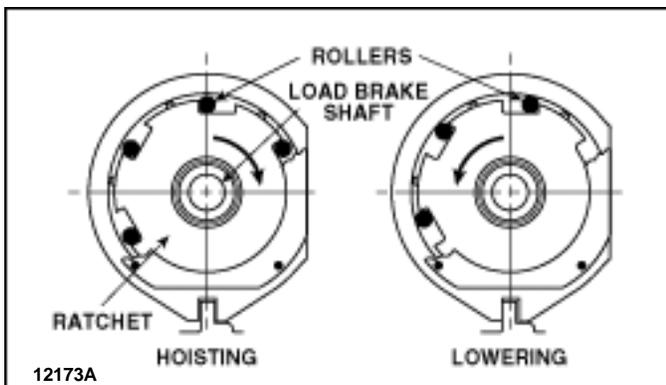

Figure 8-5. Illustration of Roller-Ratchet Brake.
- (1) Open brakes up and check shoe friction surfaces.
- (2) If worn, replace worn linings and shoes by first removing pin holding shoe and rotating shoe out of brake assembly.
- (3) Reassemble with new shoe in reverse order of disassembly. It is recommended that a new set of brake shoes be kept on hand to reduce down time for replacement.
- (4) Adjust brake per paragraph 8-5. c.
c. Operation. Figure 8-5 shows the action of the roller-ratchet load brake in both hoisting and lowering. The slots into the ratchet are sloped in a manner which forms a clearance between the rollers and the retaining plate (outer race) when the ratchet is rotated in the hoisting direction. However, when rotating the ratchet in the lowering direction, the slot